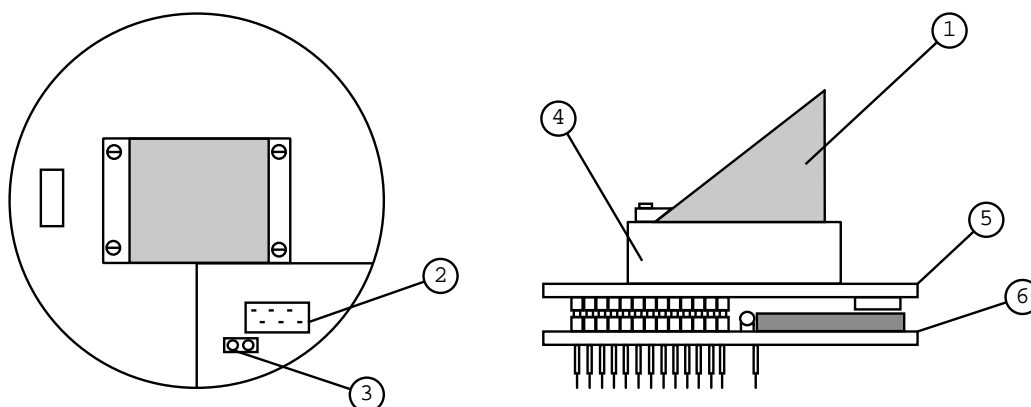

Figure 2.1: Overview of the K6300 vision turret.
Please check your package that should contain a K6300 vision turret and the documentation you are reading currently. Check the turret against figure 2.1, and especially the optical prism and lens. If you notice any damage, please contact your K-Team products dealer.
Figure 2.1 is a general view of the turret when fully assembled, the followings details are pointed:
The serial communication is exactly the same as described in section 4.1. The turret does not need to be plugged on a robot, all the regular turret features can still be used. The only difference is a jumper setting required to provide power to the turret. A regular 2.54mm jumper must be plugged in the correct socket (ser item 3 on figure 2.1).